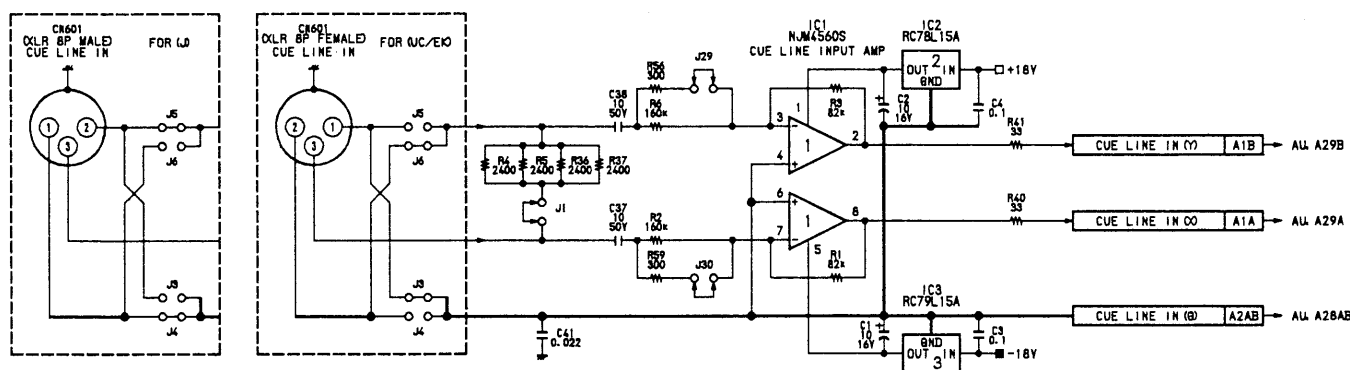

Fig. 4-2-2. Line Input Circuit
Fig. 4-2-2 figure shows the line input circuit of the cue channel. The cue and time code (TC) signals are input through the CUE LINE IN and TC LINE IN connectors respectively. 600-ohm terminators for these inputs can be connected and disconnected by inserting and removing short pins.